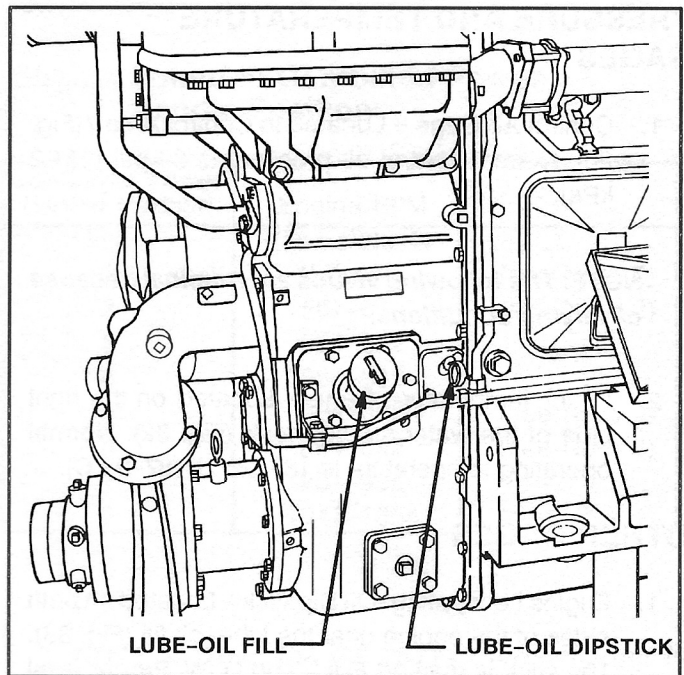

FIG. 33. DIESEL ENGINE LUBE-OIL DIPSTICK AND FILL. E-32795A.
1. Engine Lubricating–Oil Dipstick – Located on both sides of the engine near the lube–oil fill (Fig. 33). The stick is marked FULL and LOW. Proper level with the engine idling is between FULL and LOW.